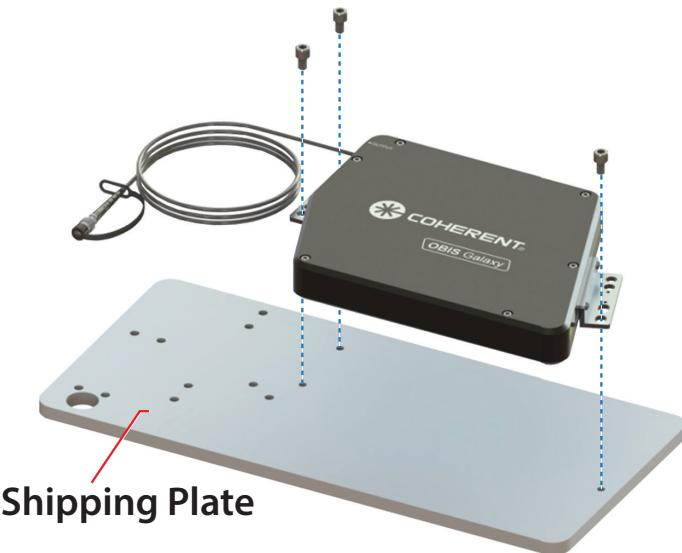

Figure 5-27. Secure OBIS Galaxy to Shipping Plate
1. Attach the OBIS Galaxy to the shipping plate using the three socket head cap screws, as shown in Figure 5-27.